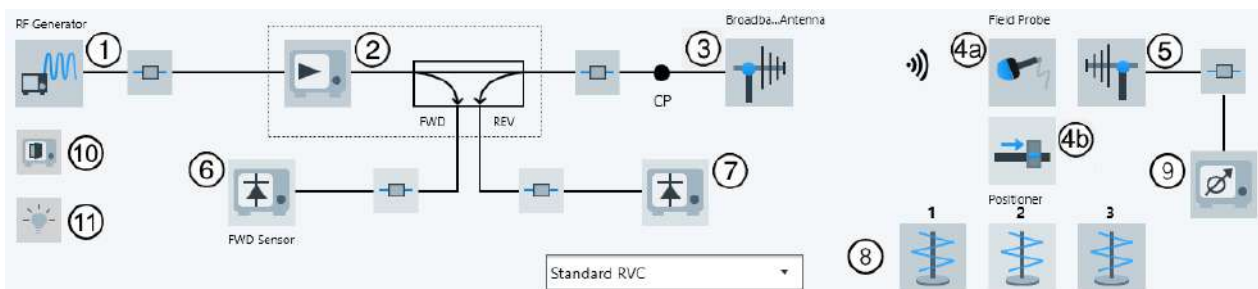

Figure 4-159: EMS hardware setup diagram for Standard RVC in Calibration View
- The "Calibration View" (see Figure 4-159)